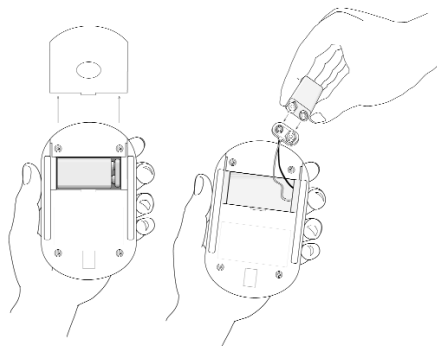

Figure 7
1. Remove the battery cover (Figure 7).